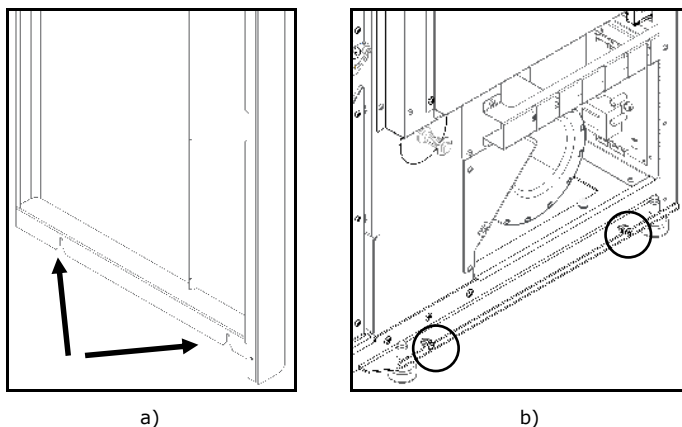

Figure 93 – Assembly of the covers
c) Then fit the lower holes of the side covers (Figure 93-a) into the guides at the bottom of the machine (Figure 93-b).